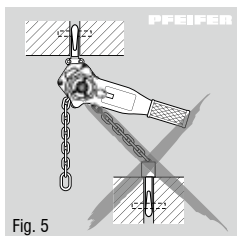

Fig. 5
- Avoid parallel shear pull, i.e. a lateral load on the housing or on the upper or lower hook. Always lift, tighten or pull in a straight line between the two hooks (fig. 5).
- Parallel shear pull, i.e. lateral loading of the housing or the lower block, is forbidden (Fig. 5).
- the attachment point is of adequate dimensions, and that the equipment can align itself freely. Avoid parallel shear pull (Fig. 5)!